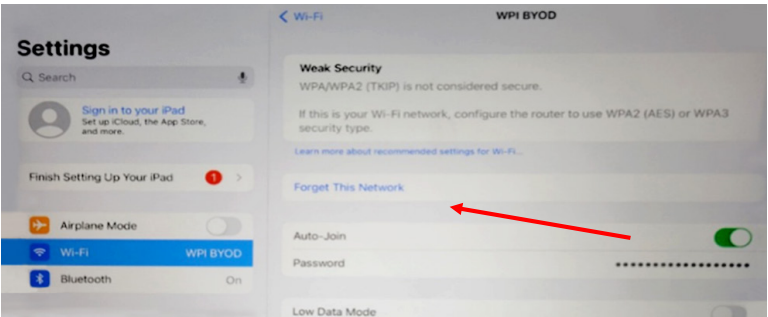

Fig. 56—Click *Forget This Network*.
- 3. Navigate on the iPad to *Settings* and choose *Wi-Fi*. If you see the WPI BYOD network, click *Forget WPI BYOD Network* to delete it. See Fig. 54, and Fig. 56.